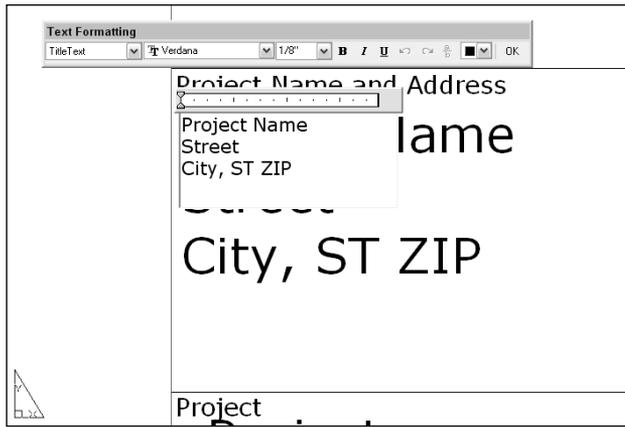

Figure 1-8: The text editing window.
24. Double-click the Project Name text. The text editing window opens, with the Text Formatting toolbar above it, as shown in Figure 1-8.